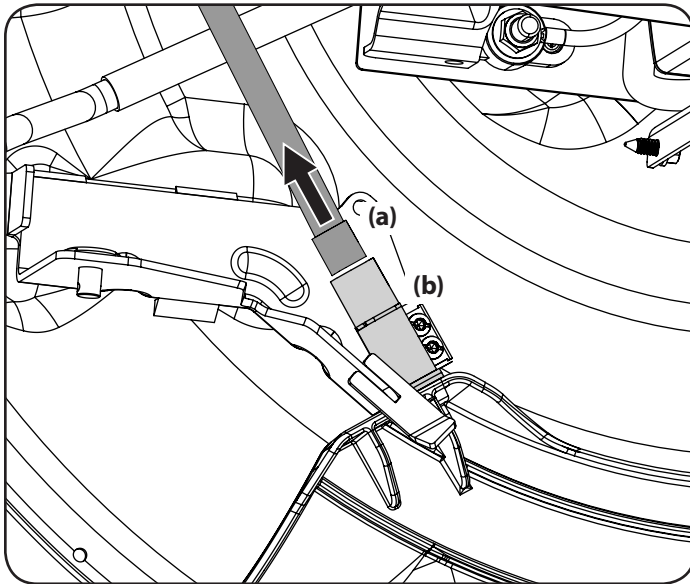

Figure 22
- Unplug the wire connector (a) from the safety switch (b) at the rear of the chute opening. See Figure 22.
- Plug the wire connector (a) into the safety switch (b) at the rear of the chute opening. See Figure 22.
Note: Be sure to securely reconnect the wire connector to the safety switch in Figure 22, you tractor will not start or operate without the safety switch properly connected.